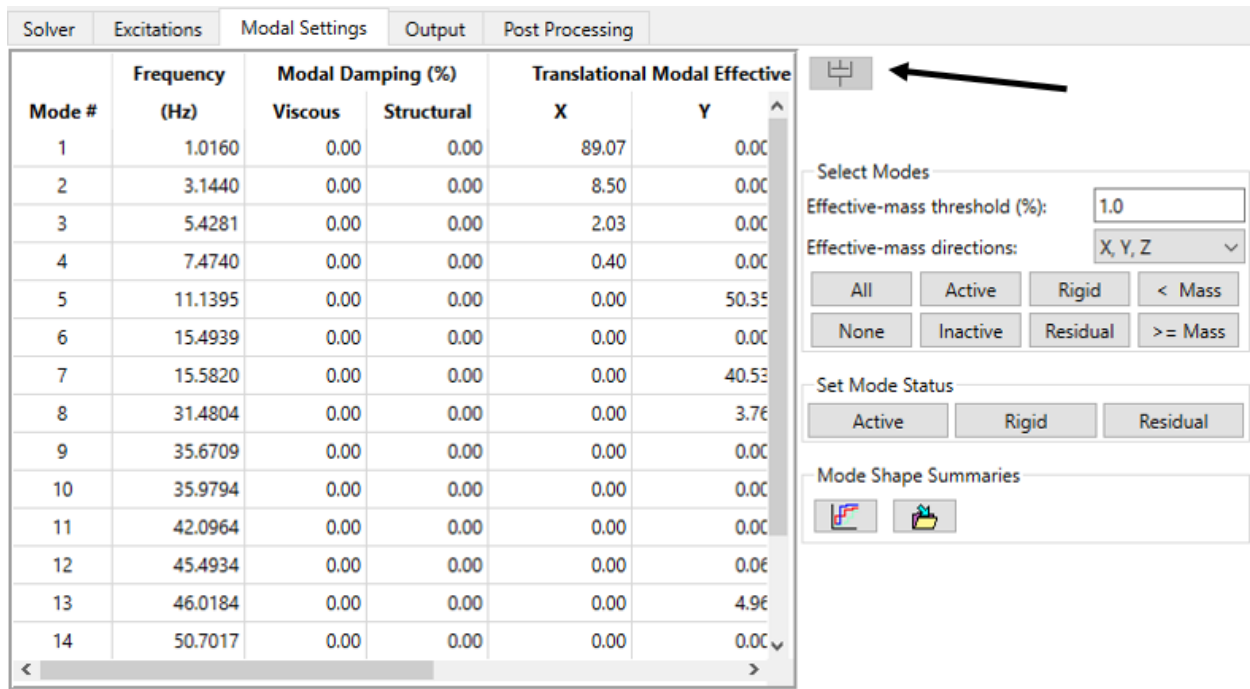
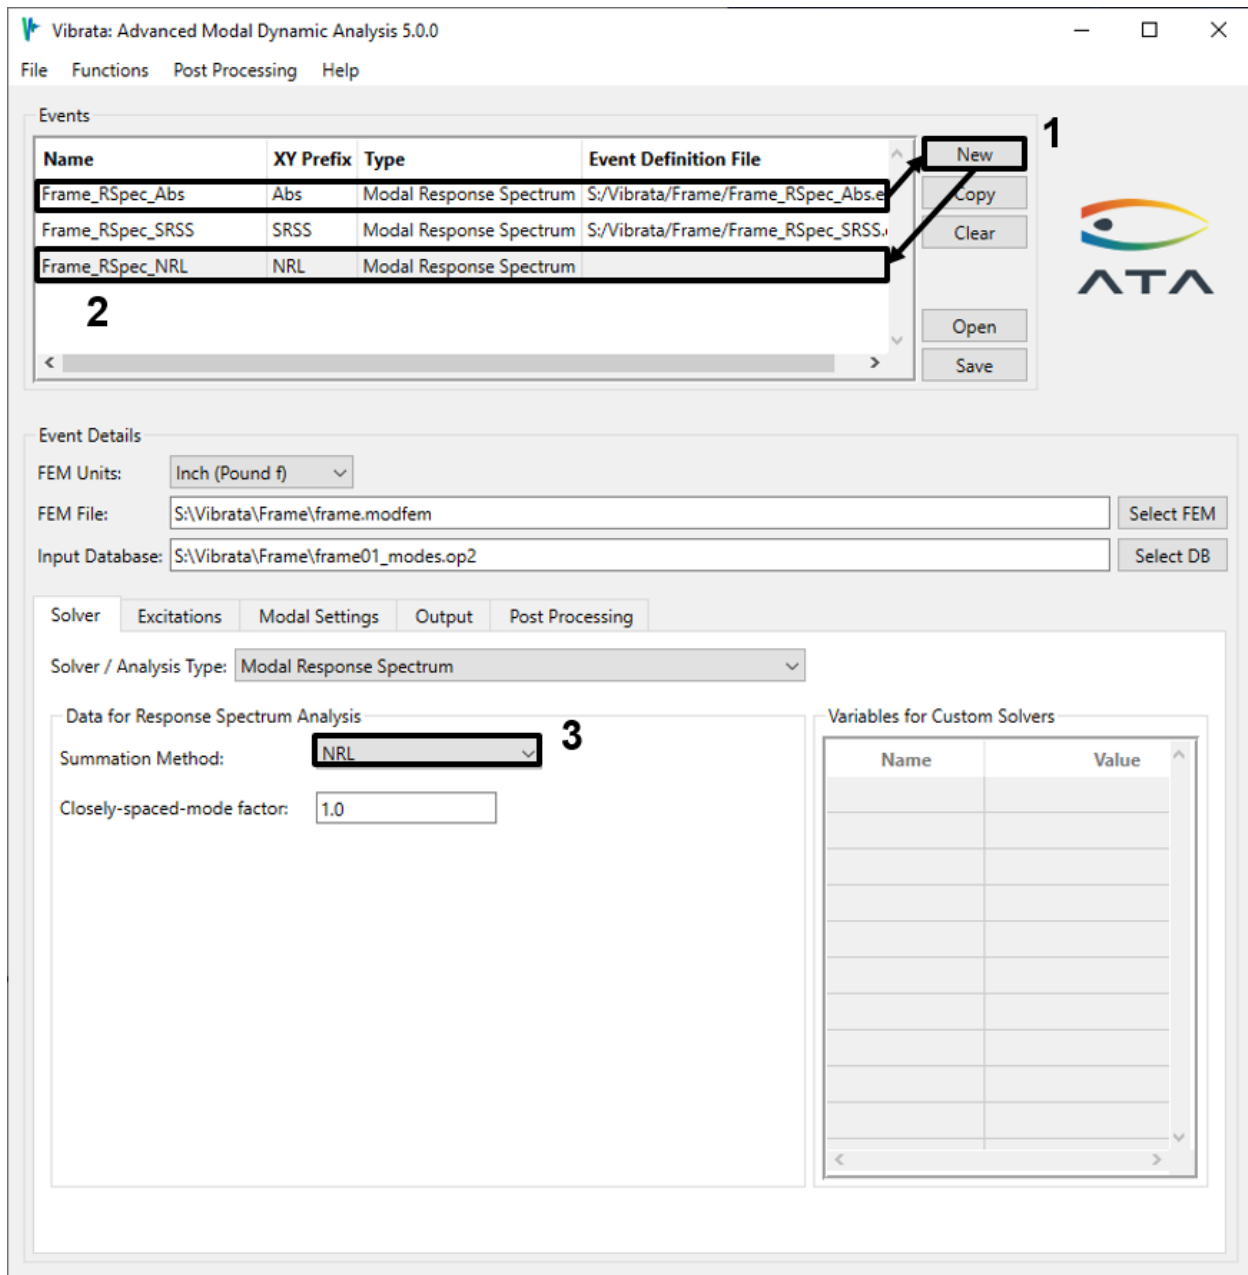

Figure 4-82. Damping is not needed and the damping dialog button is disabled.
Figure 4-85. Copy again to create a third event using NRL summation.
- No damping is needed for response spectrum analysis, as the damping level is already accounted for in the response spectrum function. In fact, you cannot even open the damping dialog (Figure 4-82).
10. Copy the first event again. Change the summation method to *NRL* and set the Closely-spaced-mode factor to 1.1 (Figure 4-85). From Figure 4-82 you can see that the frequencies of modes 6 and 7 and modes 9 and 10 are within 10% of each other, so they will be considered closely spaced. Solve the event.
14. The results are summarized in Table 4-1. The SRSS method produces the lowest responses since it sums the modal responses as if they are all *out* of phase, while the absolute value method produces the highest responses since it sums the modal responses as if they are all *in* phase. The NRL results in this example are between these two because it sums modal responses as in phase if it considers them closely spaced and out of phase if not closely spaced. This makes the NRC10 results somewhat surprising. Since it uses the same closely-spaced-mode parameter as the one we selected for the NRL case, we might have expected its results to match the NRL results, yet they are indistinguishable from the SRSS results. There is a significant difference between the NRL and NRC10 methods that accounts for this. While both treat closely spaced modes as in phase, NRL also treats the maximum-response mode as in phase with all of the closely spaced modes. Looking at the effective masses in Figure 4-82, this will clearly be mode 1. It is not “close” to any other mode, so it will not be part of the in-phase summation for NRC10, but it will be for NRL.